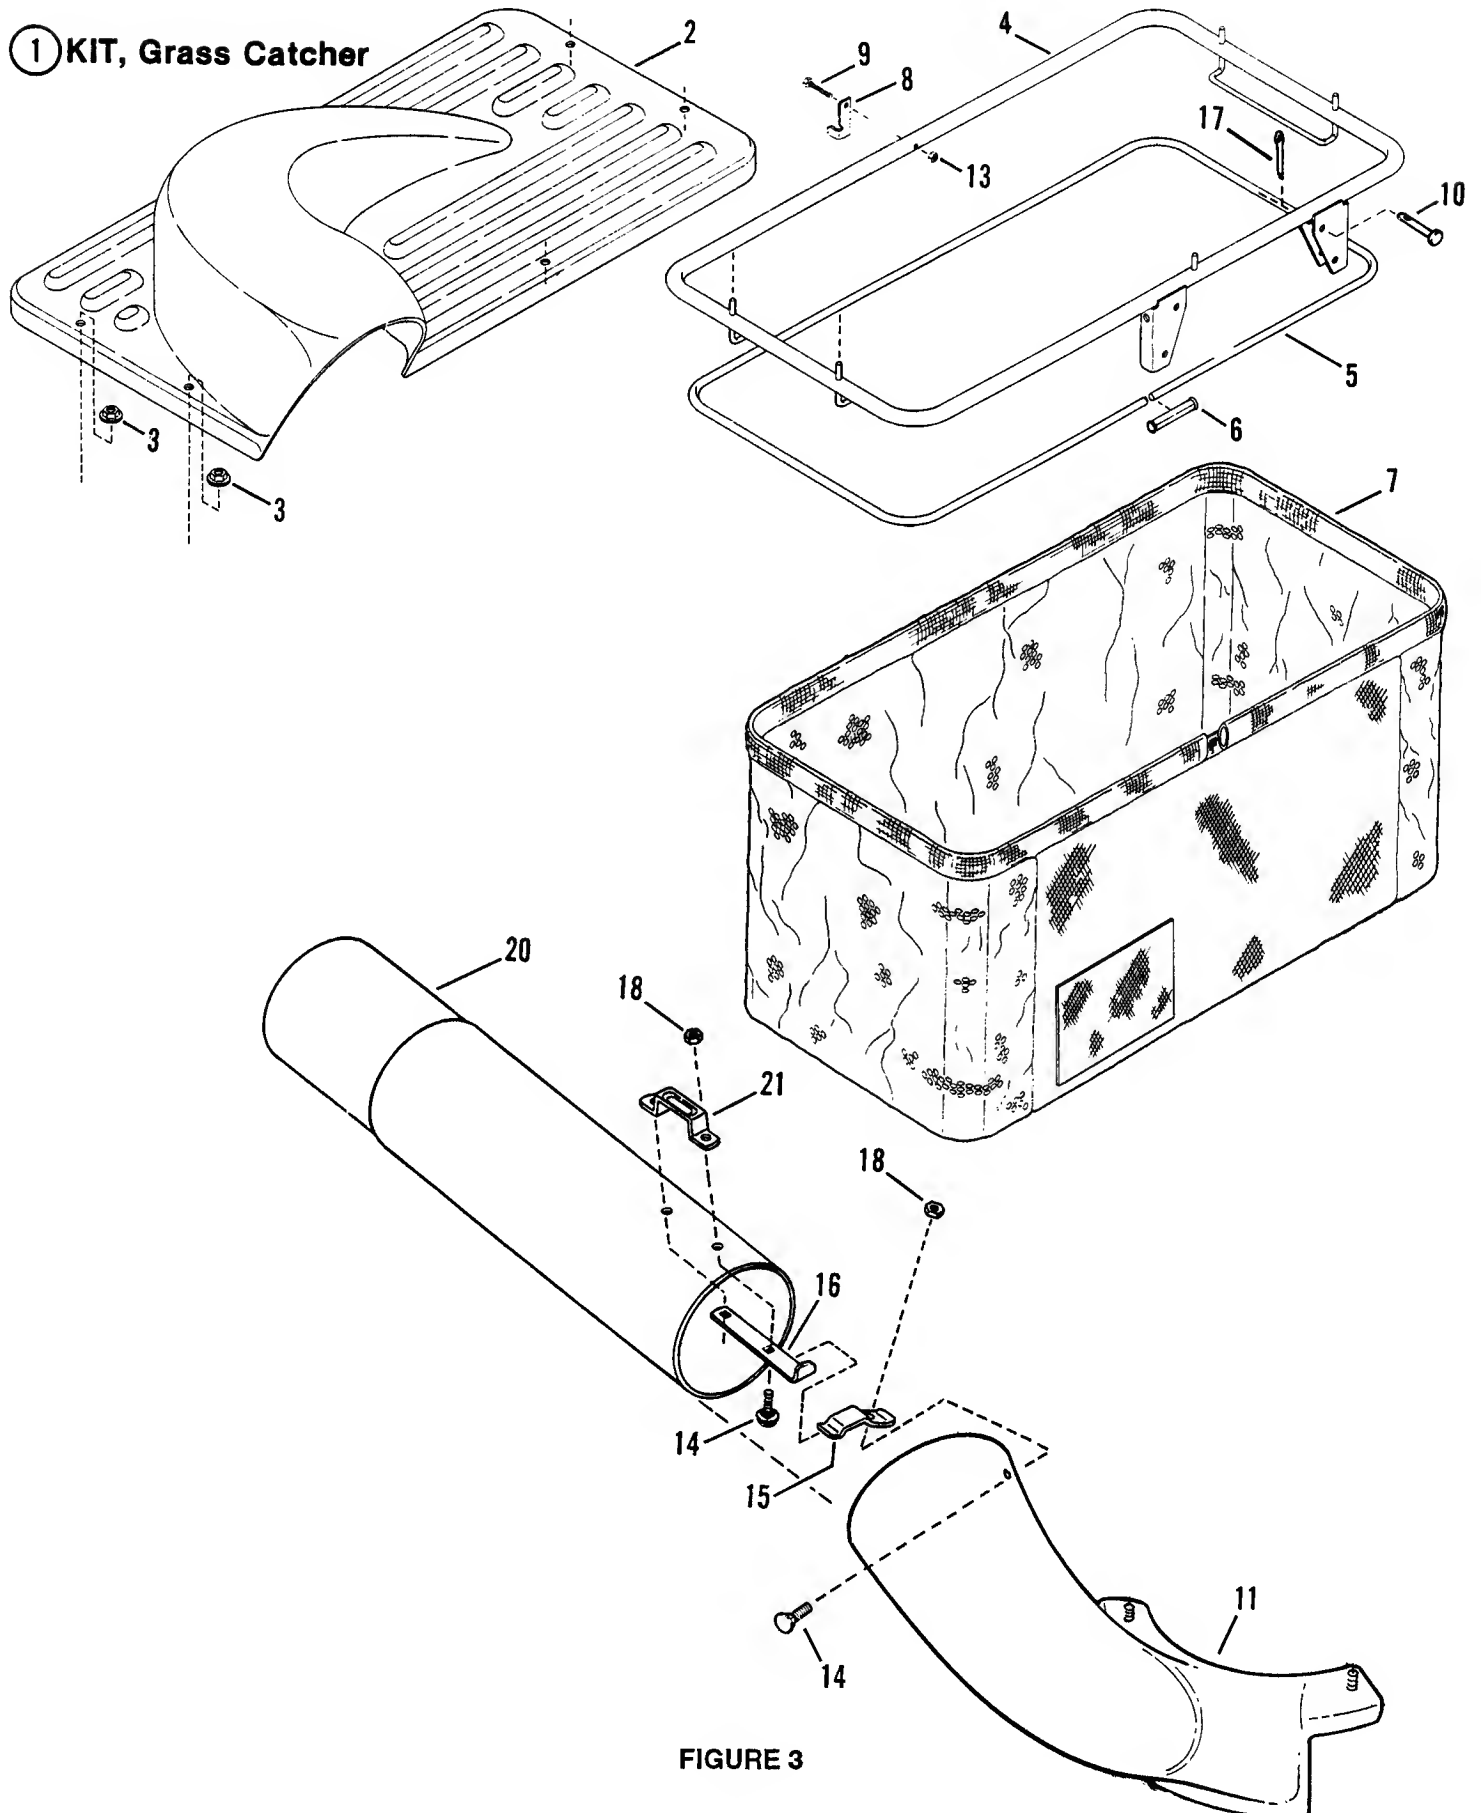

FIGURE 3
4. TUBE HANDLE & LATCH ASSEMBLY: Position the handle base inside the tube and the handle on the outside; align the holes then secure these with two 1/4 x 3/4" flat head carriage bolts (heads on inside) and with hex lock nuts on the outside of the handle. See Figure 3. Insert one 1/4 x 3/4" long carriage bolt from the inside of chute and install latch as shown in Figure 3 and secure with 1/4 hex lock nut.
5. FRAME AND SKIRT INSTALLATION: Lower frame structure into position on bumper. Secure each side of structure as follows: Insert one 5/16 x 1-11/16" clevis pin through hole (below bumper) as shown in Figure 3 and secure with 3/32 x 1-1/2" hairpin cotter.
7. CONTAINER TOP: Position the catcher or container top over the studs of the frame then secure using the five faceted washers as shown in Figure 3. Assemble the frame latch on the outside of the frame as shown and secure with the 1-3/8" long capscrew on the outside and with locknut on the inside to complete the installation.